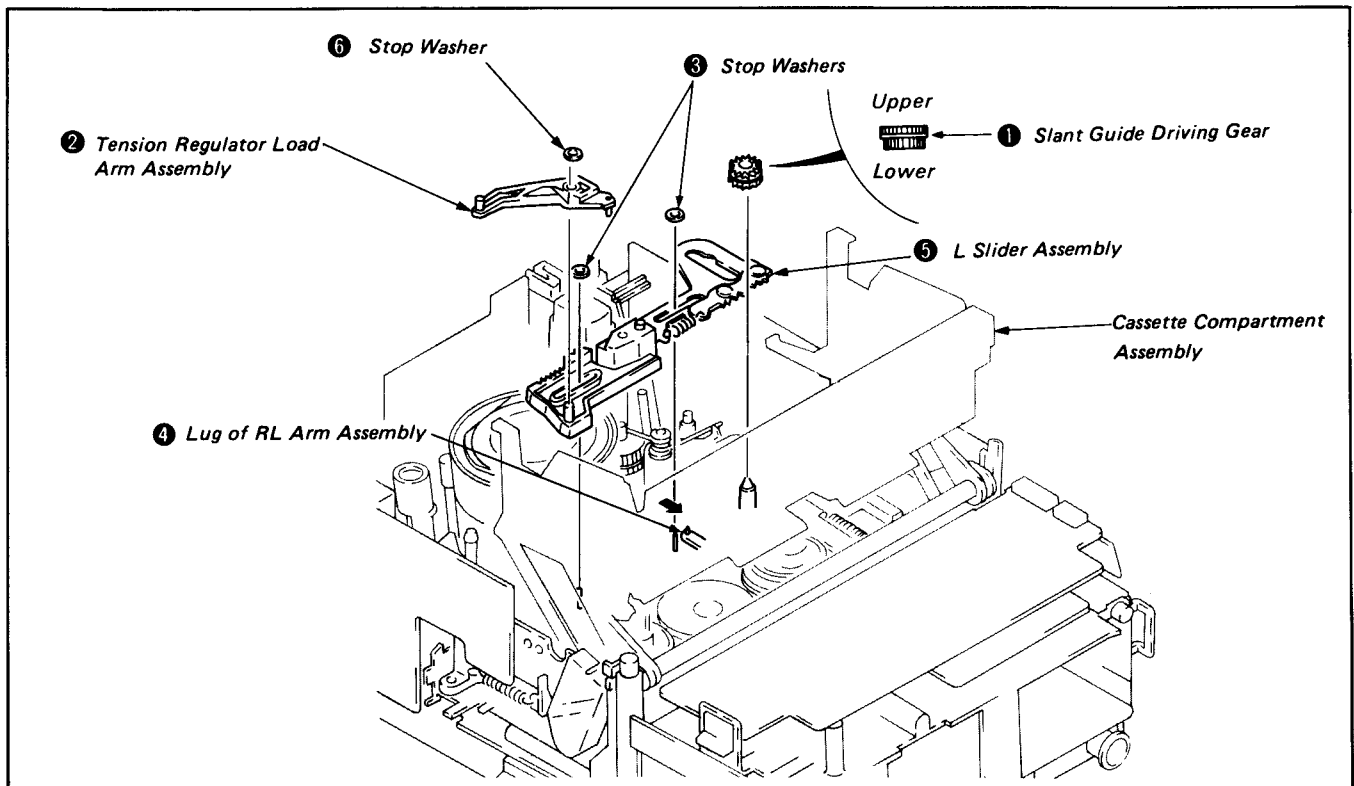
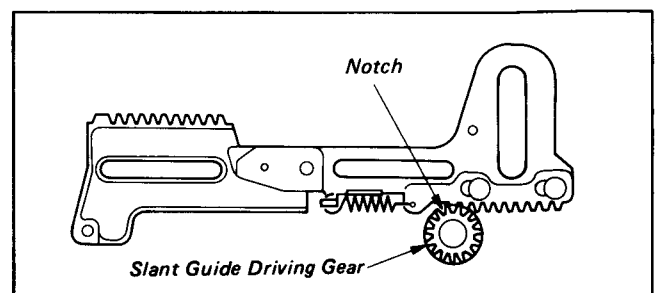

Fig. 8-31.
Fig. 8-33.
- 2) Remove the No. 2 guide assembly (entrance guide (P) assembly) as instructed in 8-3-10.
- 4) Remove the slant guide drive gear ①.
- 5) Remove the pin of the tension regulator load arm assembly ② from the cam groove of the tension regulator arm assembly. (Refer to 8-3-4 Tension regulator arm assembly.)
- 6) Remove the two stopper washers ③.
- 7) Remove the L slider assembly ⑤ push the RL arm assembly lug ④ toward the arrow.
- 8) Remove the stopper washer ⑥ and tension regulator load arm assembly ②. (See Fig. 8-31.)
- 2) Remount the tension regulator load arm assembly ② and stop washer ⑥. (See Fig. 8-31.)
- 3) Remount the L slider assembly ⑤ pushing the RL arm assembly lug ④ toward the arrow.
- 4) Refit the two stop washers ③.
- 5) Reinsert the pin of the tension regulator load arm assembly ② into the groove of the M slider. (Refer to 8-3-15 M Slider.)
- 6) Reinsert the pin of the tension regulator load arm assembly ② in the cam groove of the tension regulator arm assembly referring to 2) of 2. Remounting in 8-3-4. (Refer to 8-3-4 Tension regulator arm assembly.)
- 8) Mesh the notch of the slant guide drive gear ① with the tooth at the left edge of the L slider assembly sliding one tooth while taking note to the upper and lower parts of the slant guide drive gear ①. (See Fig. 8-33.)